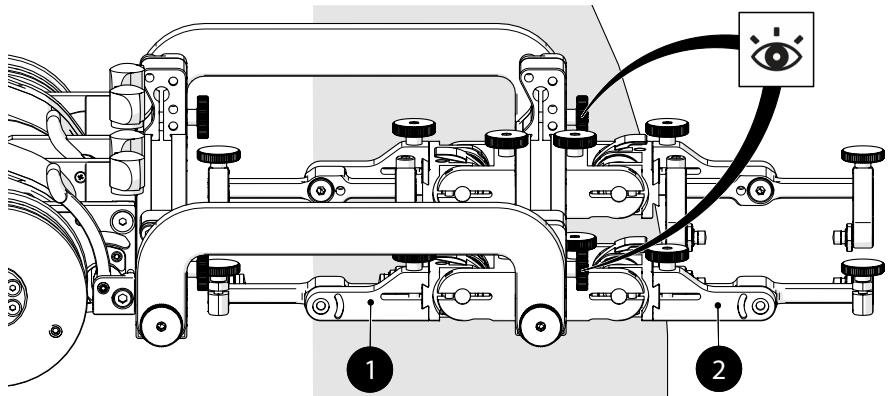

Fig. 220 - Position primary and secondary probe holders
3. Mount the low profile probe holder frame to the crawler (see *Swivel Mount* on page 46 for additional details). When mounting the low profile frame, ensure the attachment knobs (Fig. 220) are at the front (non crawler side).